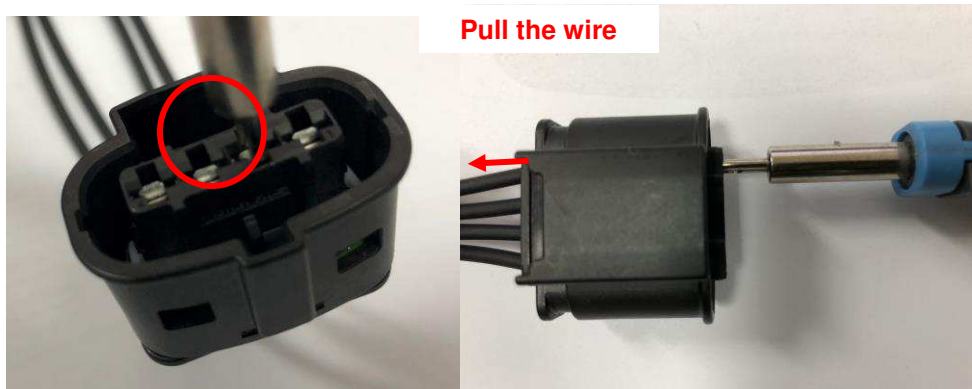

Fig. 10
(1) Check the TPA status(Pre-Lock). If TPA is Final Lock status, It should be Pre-Lock status (See Par.5.1.). The contact can't be extracted in Final Lock status.
(2) Extract the TML with pulling the crimped wire whild pressing latch slightly using Extraction Tool. (see Fig.10)